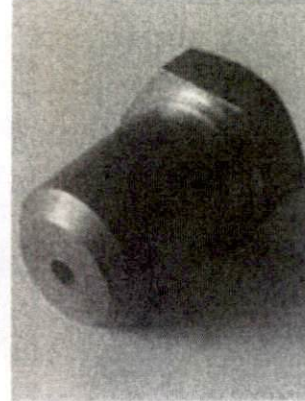

Fig. 10
3. When exchange gas source, use the main fire orifice (Fig.10) in the accessories. Follow rules of 8.5.